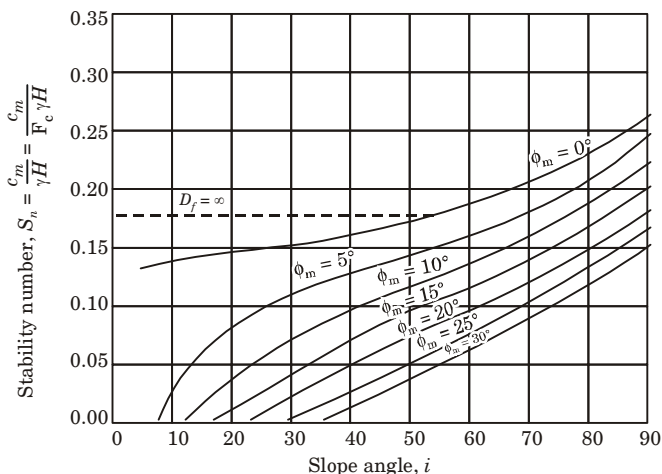

Fig. 5.19.1.
4. The charts are prepared indicating the stability number, and slope angle i for various values of ϕ_m , as shown in Fig. 5.19.1.
5. There are 5 parameters, viz c_m , γ , H , i and ϕ_m . However, if $\phi_m = 0$ (purely cohesive soils), a sixth parameter D_f becomes also important, as shown in Fig. 5.19.1.